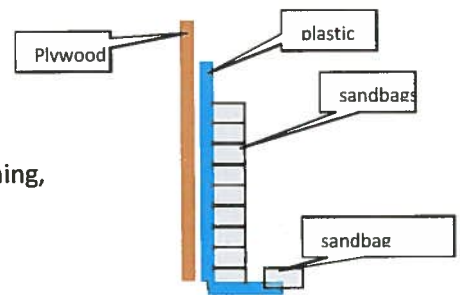

figure 1
- Stack your sandbags against wall. Stagger your sandbags with top of bag pointing in direction of the next bag your stacking to lock in place. (*see fig 1*)